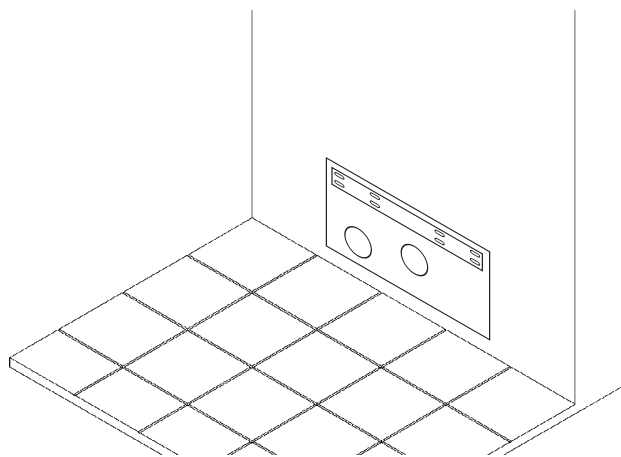

fig. 2
2. Make an opening of adequate depth in the wall using the supplied paper template bearing in mind that the unit's recessed section has a maximum depth of 235 mm and a minimum depth of 180 mm (see fig. 2).